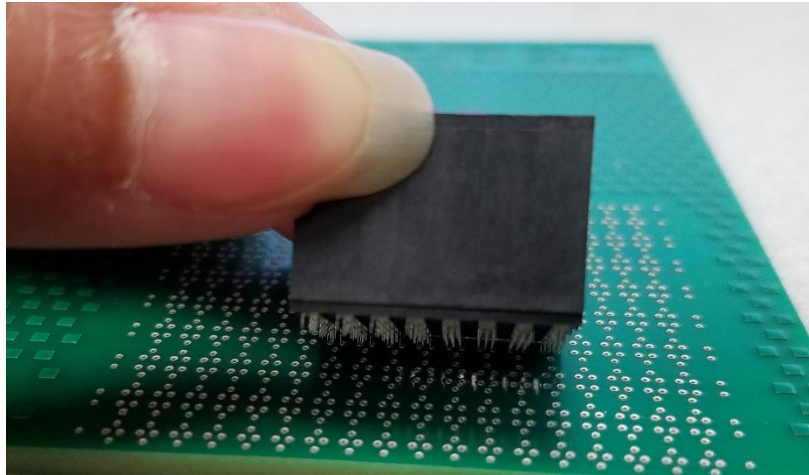

Figure 2: Back row of the BMA connector compliant pins in the PTH.
Step 6. Hold the connector up off the PCB, and place the back row of compliant pins into the correct plated through hole (PTH), see Figure 2. With the front of the connector still up off the board, roll the connector back to front, into the remaining PTHs (see Figure 3). Firmly press the connector to ensure proper engagement of the compliant pins in the PTH. Ensure that the visible compliant pins of the connector perimeter are properly preloaded into the PTH (see Figure 3).